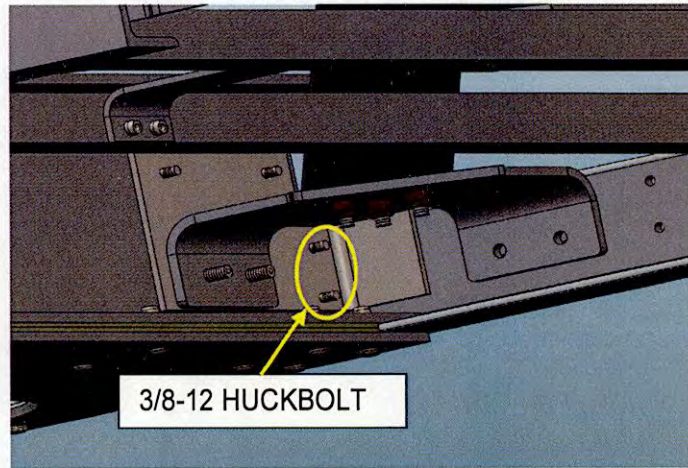

Figure 17
21. Secure the other two 3/8-12 Huckbolts on the brackets with collars. See Figure 17 below.